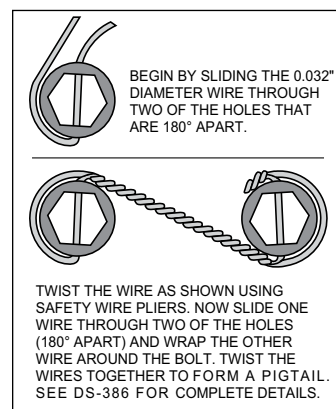

Figure 2.
STEP 3 Safety wire bolts (7) using standard 0.032 inch diameter stainless steel safety wire as shown in Figure 2. Please refer to Wilwood's data sheet DS-386 (available at www.wilwood.com/Pdf/DataSheets/ds386.pdf) for complete safety wire installation instructions.